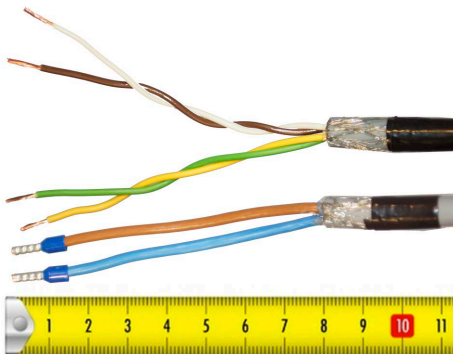

Figure 7: Cable Preparation Sending Cable Sides
4. Attach the remaining visible grounding shield to the metal saddle on the rear of the instrument. See *Figure 7: Cable Preparation Sending Cable Sides* on page 13.